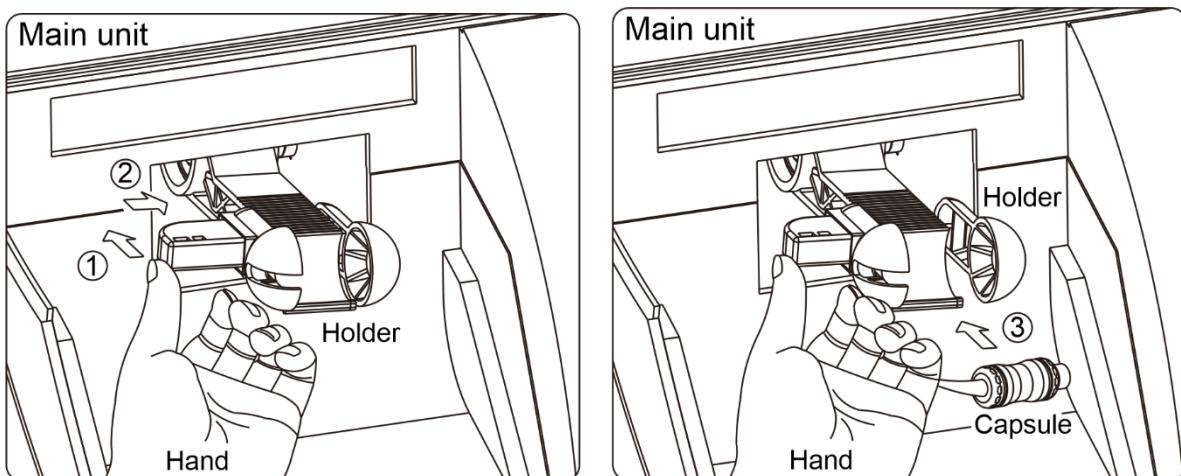

Fig 3
- 4) Open the transparent protecting shield and fix the capsule onto the mixer's holder, then close the cover, As shown in Fig.3.